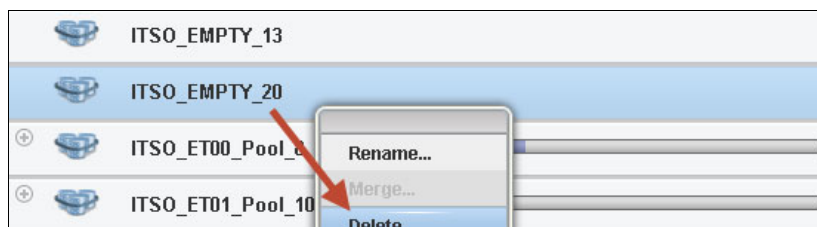

Figure 11-47 Delete one pool of the pool pair
- Choose one of the pools from the recently created pool pair to delete, as shown in Figure 11-47.